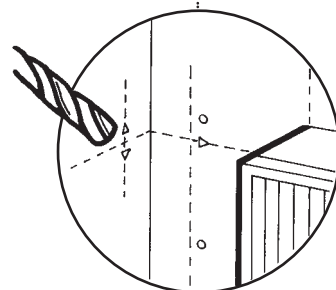

Fig. 36
14. Cut a hole approximately 107mm (4¹/₄ in) diameter in the masonry for the 100mm (4 in) diameter flue duct (Fig. 36). (Use of a core drill is recommended. When using a core drill it is important to keep the drill level and square, particularly with the wall onto which the boiler is to be fitted).